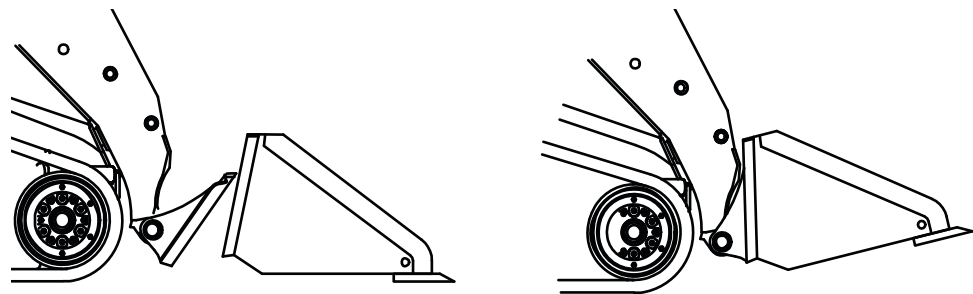

FIGURE 2.2A QUICK ATTACH MECHANISM LOCKED TO ATTACHMENT
2. Drive the skid steer to the attachment plate and hook the top edge of the skid steer quick attach mechanism under the lip of the brush cutter's attachment plate (see figure 2.2a below).
3. Slowly tilt the skid steer quick attach mechanism upward until the brush cutter attachment plate is flat against the skid steer quick attach mechanism (see figure 2.2a below).